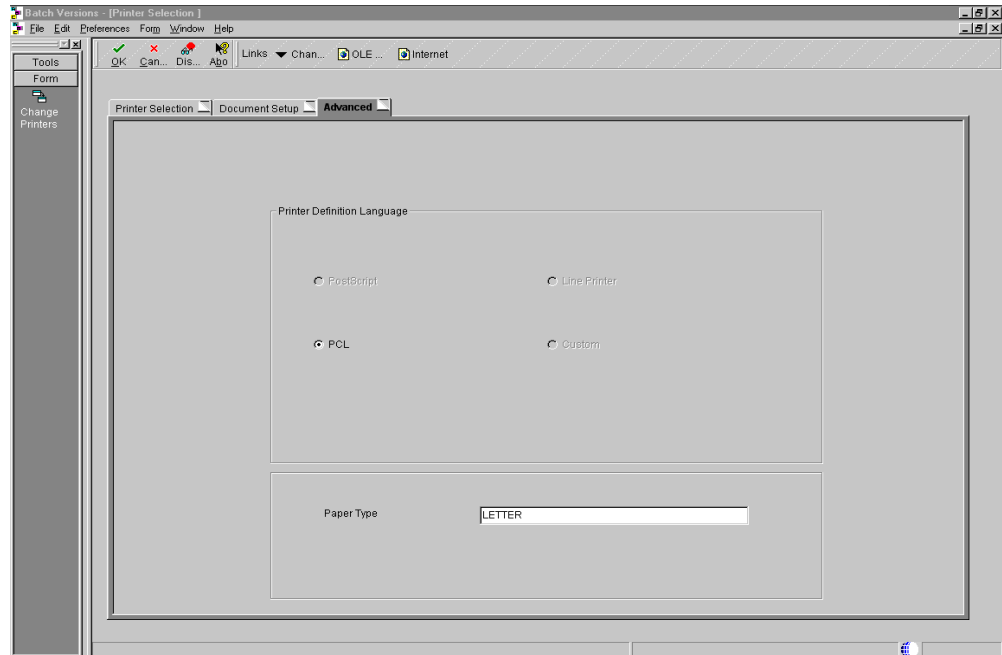

Figure 197. Printer Selection display
6. You also have the opportunity to change the report output by selecting the Document Setup Tab in the Printer Selection Window (Figure 197).